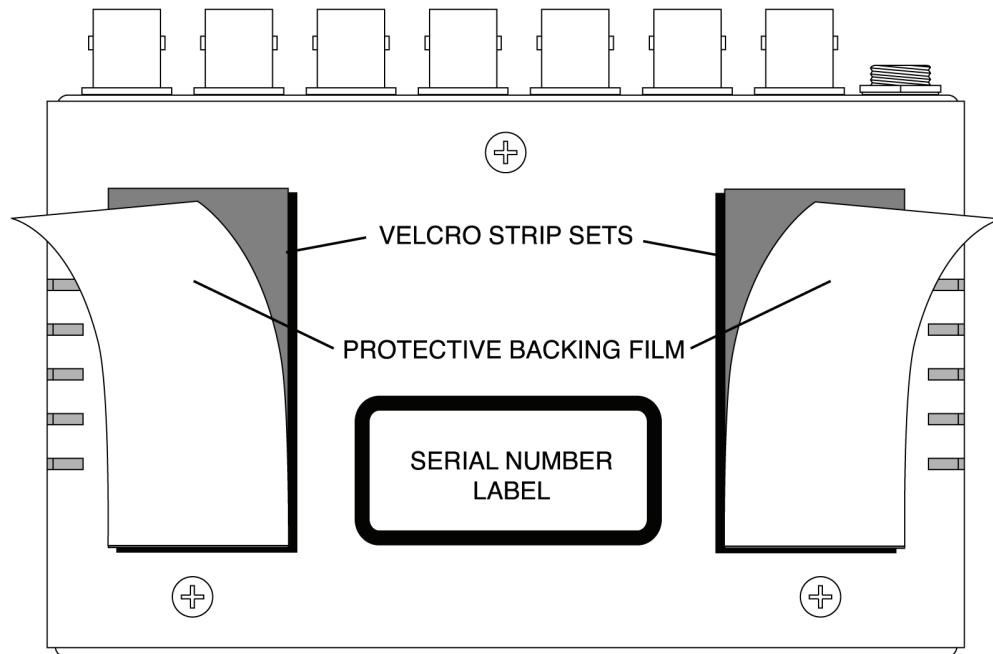

Figure 2. Velcro Installation Option
2. Adhere the strip sets to the bottom side of the module as shown in Figure 2.